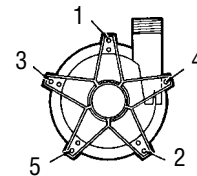

Figure 2
6. Install the wet end assembly by grasping the discharge with your right hand the "fins" (marked 3 and 5 in figure 2) with your left hand. Carefully align the wet end with the motor adapter and allow the magnets to pull it into place.
Align mounting holes and install 5 Phillips pan head screws (item 7) and hex nuts (item 9). Hand tighten screws to 30 in-lbs. (3.34 N-m) of torque using the pattern shown in figure 2.
- Install the two-piece shipping plug into the suction of the housing. Remove the 5 Phillips pan head screws and hex nuts (items 7 and 9).
- Securely clamp or hold motor in place. Remove wet end by gripping the discharge with your right hand while gripping the two fins marked 3 and 5 in figure 2. With a tight grip, pull the wet end straight out of the motor adapter using one quick motion.